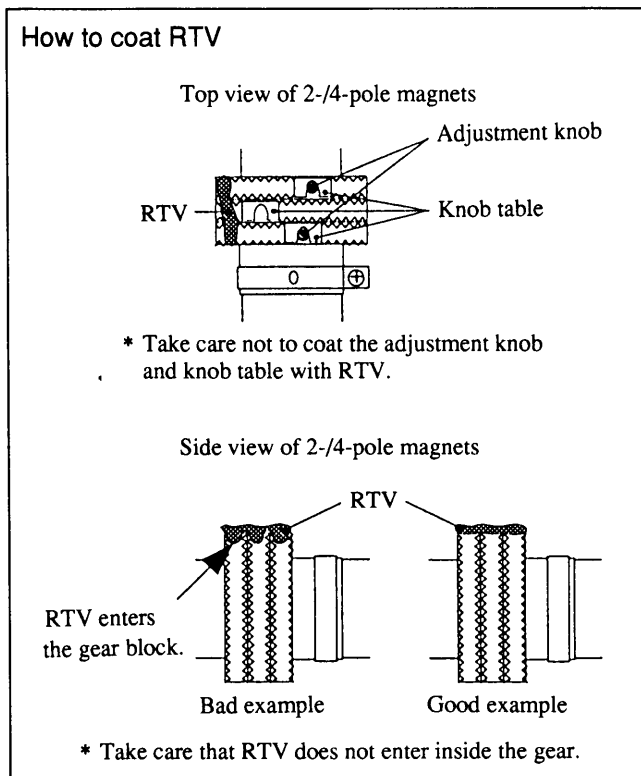

Figure 7
14. Coat the 2-pole and 4-pole magnets of red, green and blue channels with the RTV and fix them. (See Figure 7.)